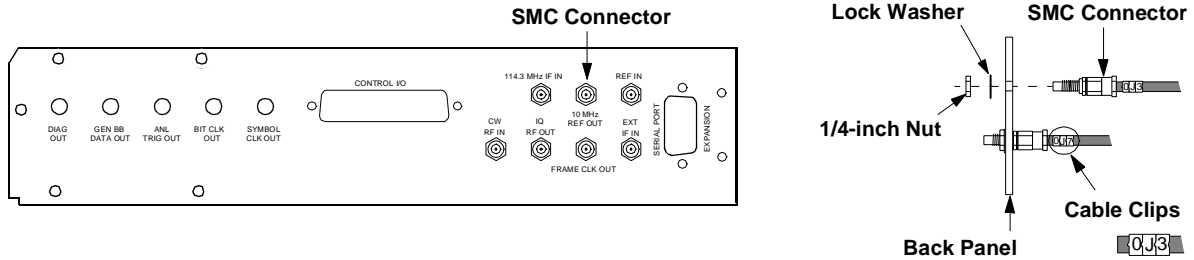

Figure 26 Back Panel SMC Connector Removal
- Access to other assemblies on the deck is now possible without removing the SMC connectors (shown in figure 26) from the back panel. If complete removal of the back panel is necessary, use a 1/4-inch wrench or deep nut-driver to disconnect the SMC connectors from the back panel.
Cable clips identify the location of each SMC connector on the back panel (see figure 26). If the connectors are removed from the back panel, use Table 7 below to identify the location of the connectors when reinstalling the panel.